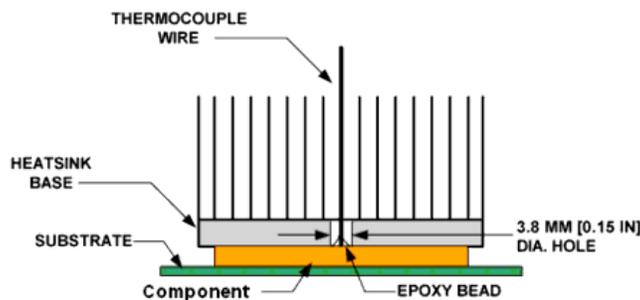

Figure 14-7. Technique for Measuring Tcase with 90° Angle Attachment
- Attach the thermocouple at a 90° angle if there is no interference with the thermocouple attach location or leads (see Figure 14-7). This is the preferred method and is recommended for use with packages with heat sinks.